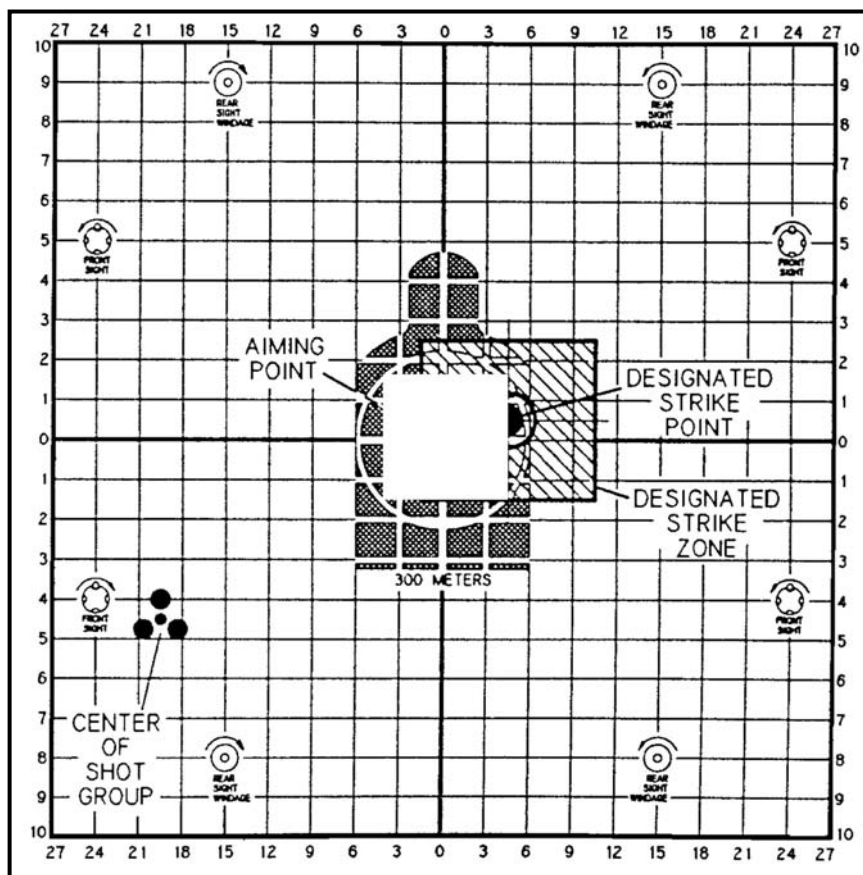

Figure 8-11. Example of shot group adjustment with strike zone.
(2) **25-Meter Zero Procedures.** If the borelight is not available, a 25-meter zero must be conducted (Figure 8-11).